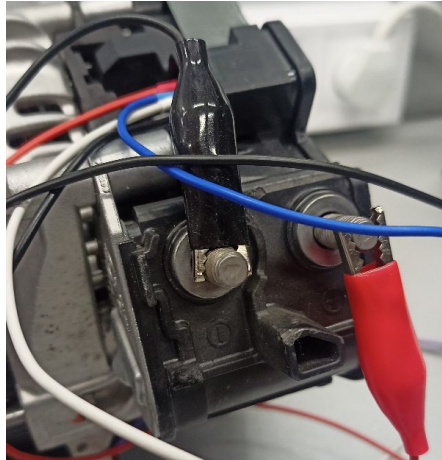

Figure 28. Connecting the diagnostic cable to the power terminals
2.2. Connect the **red clamp** to **B+** and the **black clamp** to **B-** power terminals of the alternator (see **Fig. 28**).